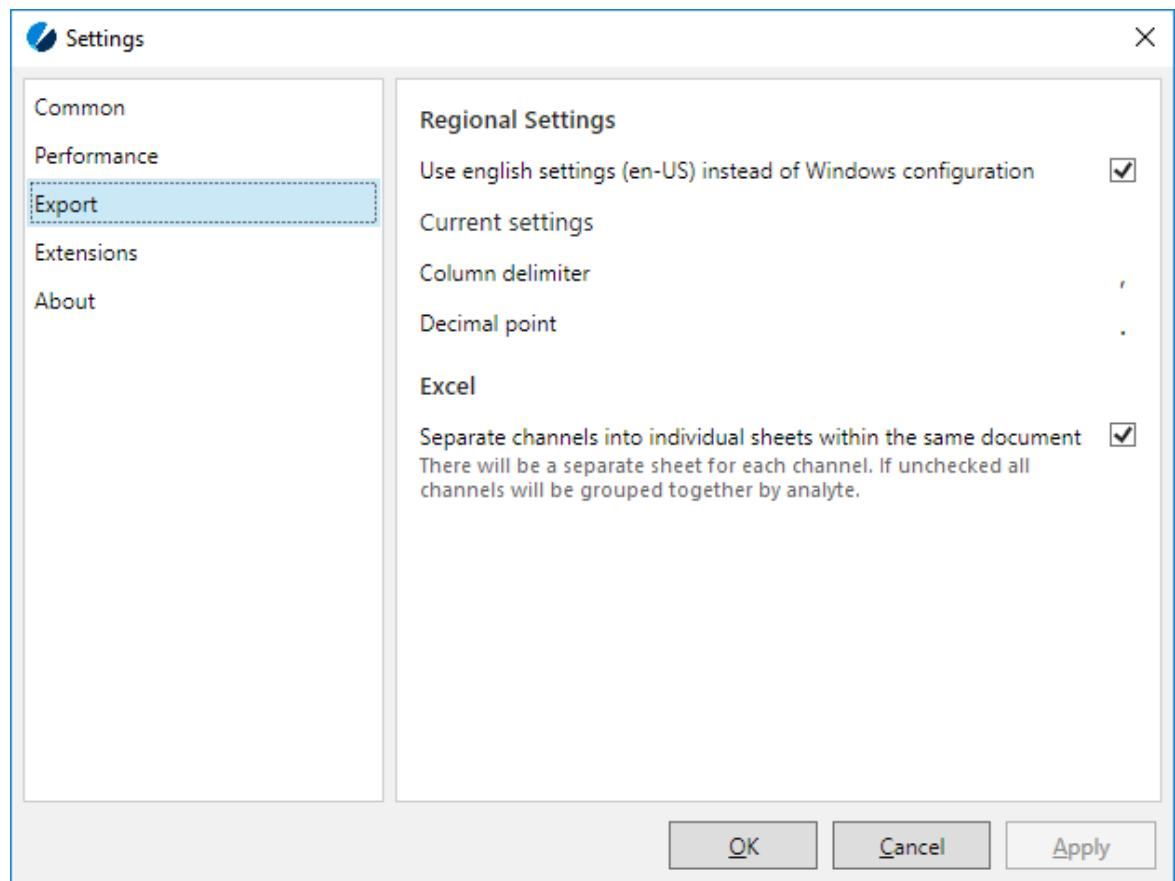

Fig. 92 Regional Settings
- **Use english settings (en-US):** Check the box as in the following example (Fig. 92) – the **Column delimiter** is set to “comma” and **Decimal point** to “point” with disregard of your Windows Region & language settings.